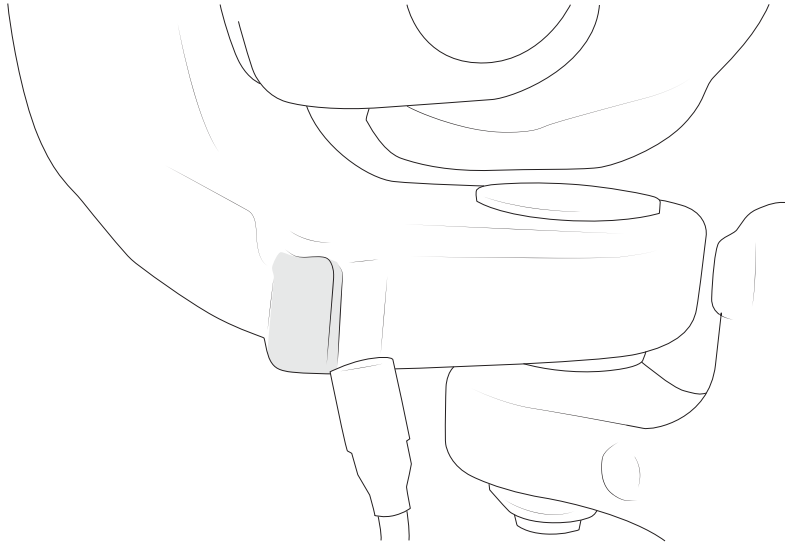

Figure 40
3. Weld the new steering stop onto the axle. You can hold this in place easily with a magnet during welding (fig. 40).